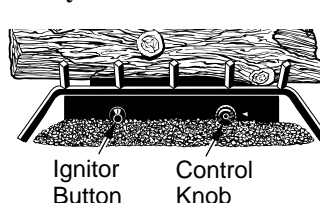

Figure 30 - Control Knob and Ignitor Button Location
4. Wait five (5) minutes to clear out any gas. Then smell for gas, including near the floor. If you smell gas, **STOP!** Follow "B" in the safety information, column 1. If you don't smell gas, go to the next step.
5. Turn control knob counterclockwise  to the PILOT position. Press in control knob for five (5) seconds (see Figure 30).